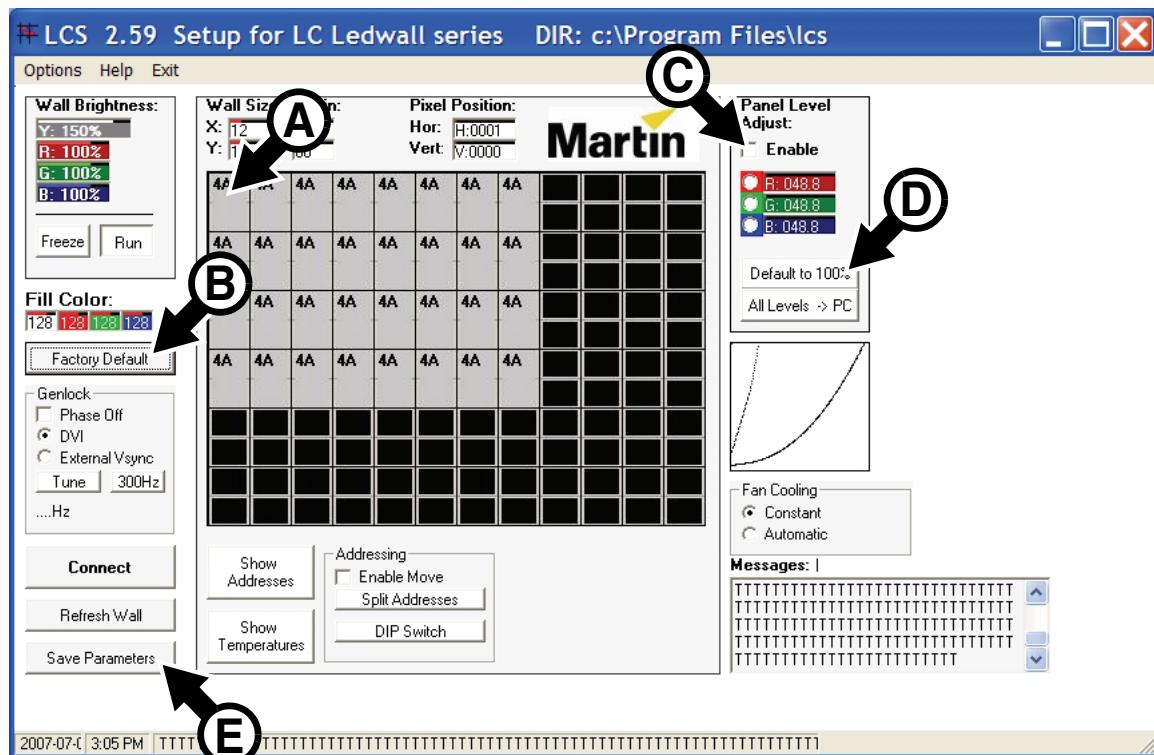

Figure 1
2. See Figure 1. Select one panel by clicking on its icon (**A**). Panel icons turn green when selected.